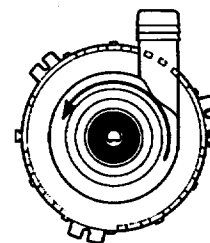

Figure 8
14. Turn pump upside down; unclip and remove screen. Do not remove screw-mounted bottom plate. Lift switch to momentarily "bump" pump. Check for correct operation and rotation (pump must rotate counter-clockwise when looking at end of shaft - Figure 8). If not, reverse wires to battery and recheck.